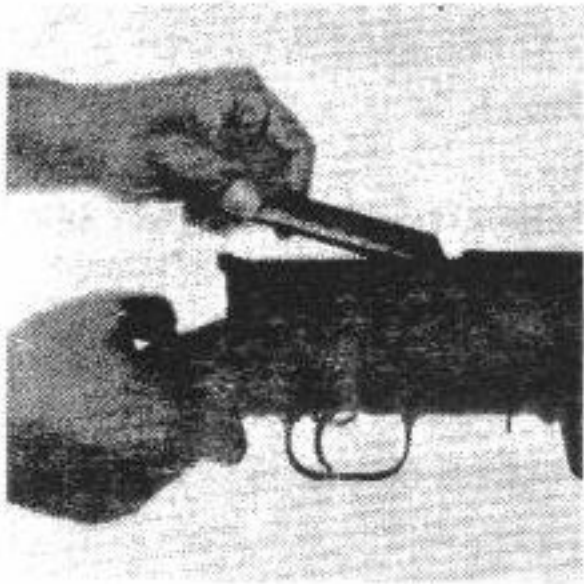

Fig. 3
Step 4: Lift the receiver cover off of the receiver (fig. 3).